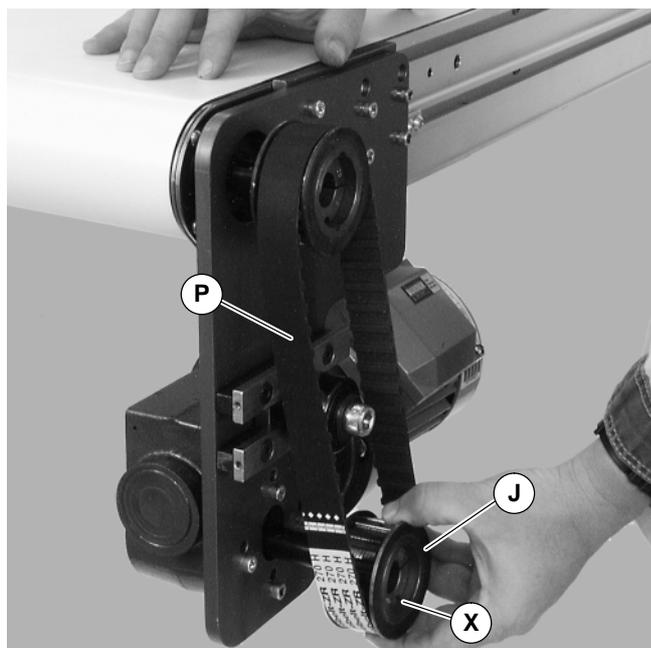

Figure 14
NOTE: If drive pulley (J of Figure 14) is replaced, wrap timing belt around drive pulley and complete step 3.
3. Loosen drive pulley taper-lock screws (X of Figure 14). Remove drive pulley (J) and timing belt (P).
NOTE: Drive pulley (J of Figure 14) is removed. Wrap timing belt around drive pulley and complete step 12.